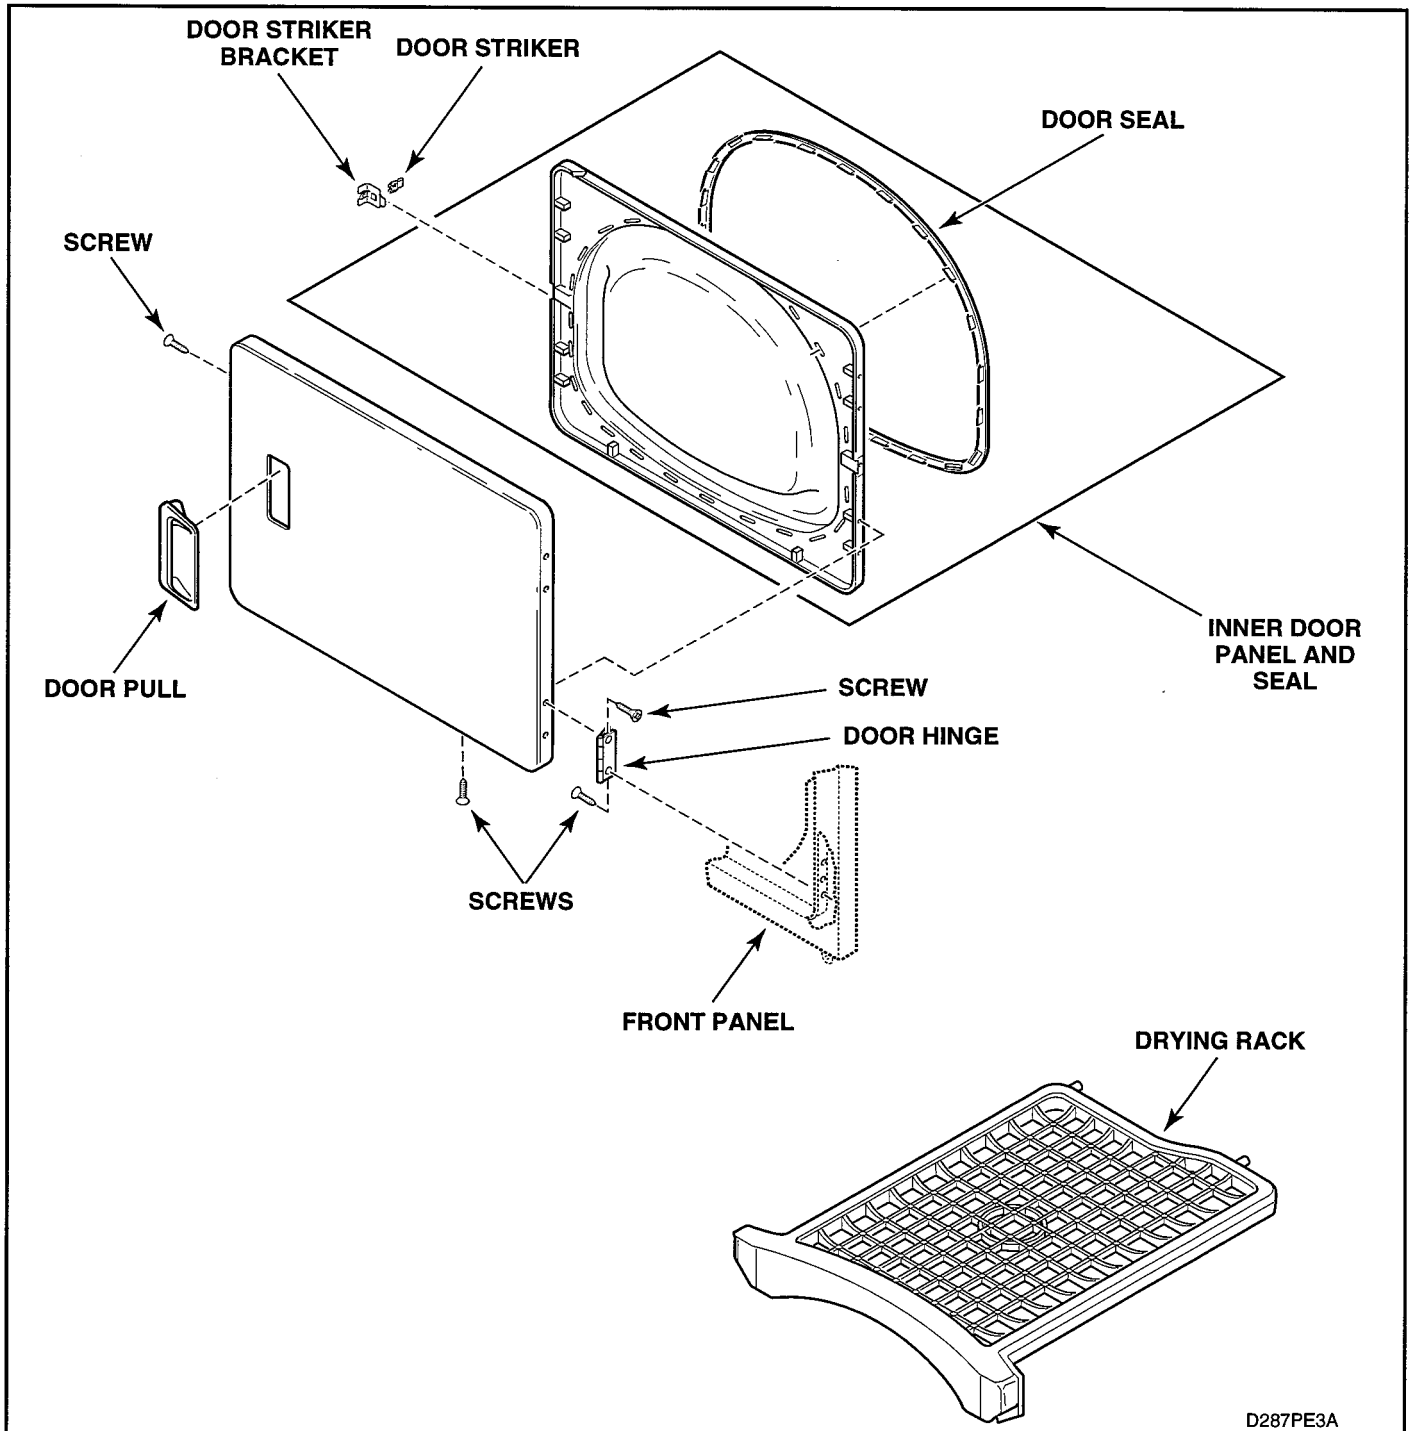

Figure 5-6
- b. Carefully remove door pull. See figure 5-6.
- c. Remove remaining screws around the door perimeter and separate panels. See figure 5-6.
### 14. DOOR STRIKE (FIGURE 5-6)